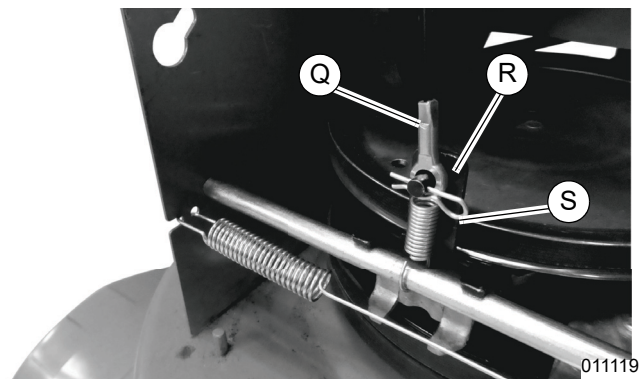

Figure 4-36. Installing Traction Cable
10. See Figure 4-36. Install traction cable (Q) onto traction drive bracket (R) and pin (S).